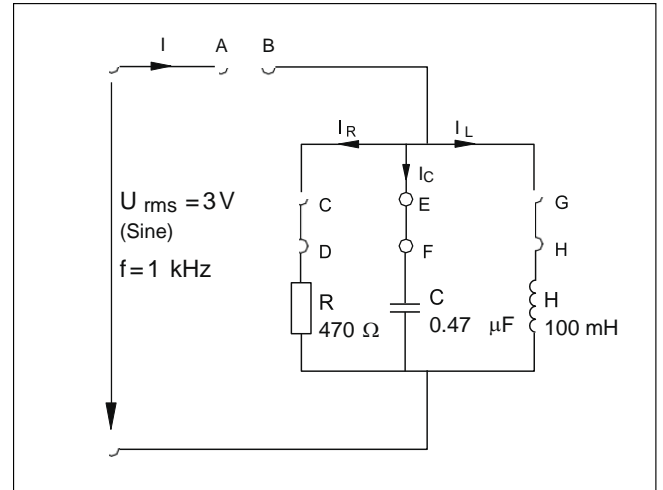

Fig. 12.2.1.1
- Set up the experiment according to the circuit (Fig. 12.2.1.1), connect the function generator and set the following voltage: